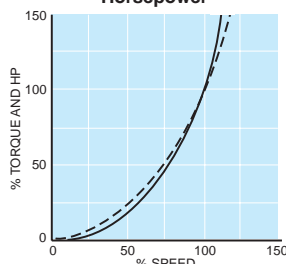

Figure 24. Cubed Exponential Horsepower
4. Cubed Exponential Horsepower (Figure 24)